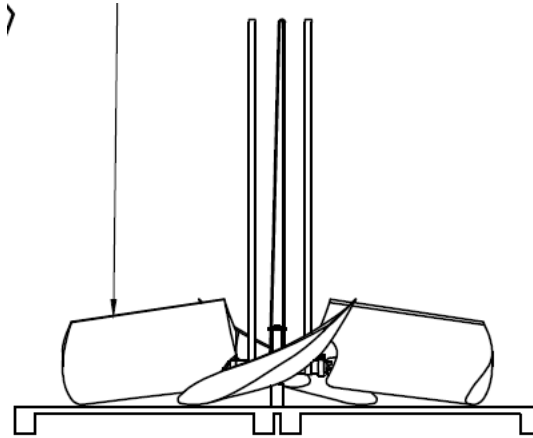

Figure 40: Lifting fan from shipping mount
4. Lift the fan off shipping crate per **Figure 40**, being careful not to damage the blades.